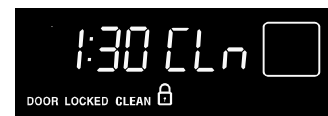

Fig. 3
4. As soon as the control is set, the motor driven oven door lock will begin to close automatically. Once the door has been locked the "DOOR LOCKED" indicator light will quit flashing and remain on. The Cooktop locked icon will remain on (Fig. 3).